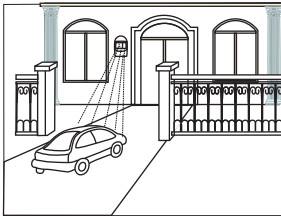

Fig.1
2. Place the sensor unit at least three feet high above the ground. Position the sensor at the entrance of your driveway (on a mailbox, a tree or on a ground stake). You may also place the sensor on your garage, near the front entrance or rear door. Can be used to protect your yard from unauthorized trespassing. May help notify you if your children or pet leave the yard. Any movement nearby will transmit a signal to the receiver. (Fig.1)